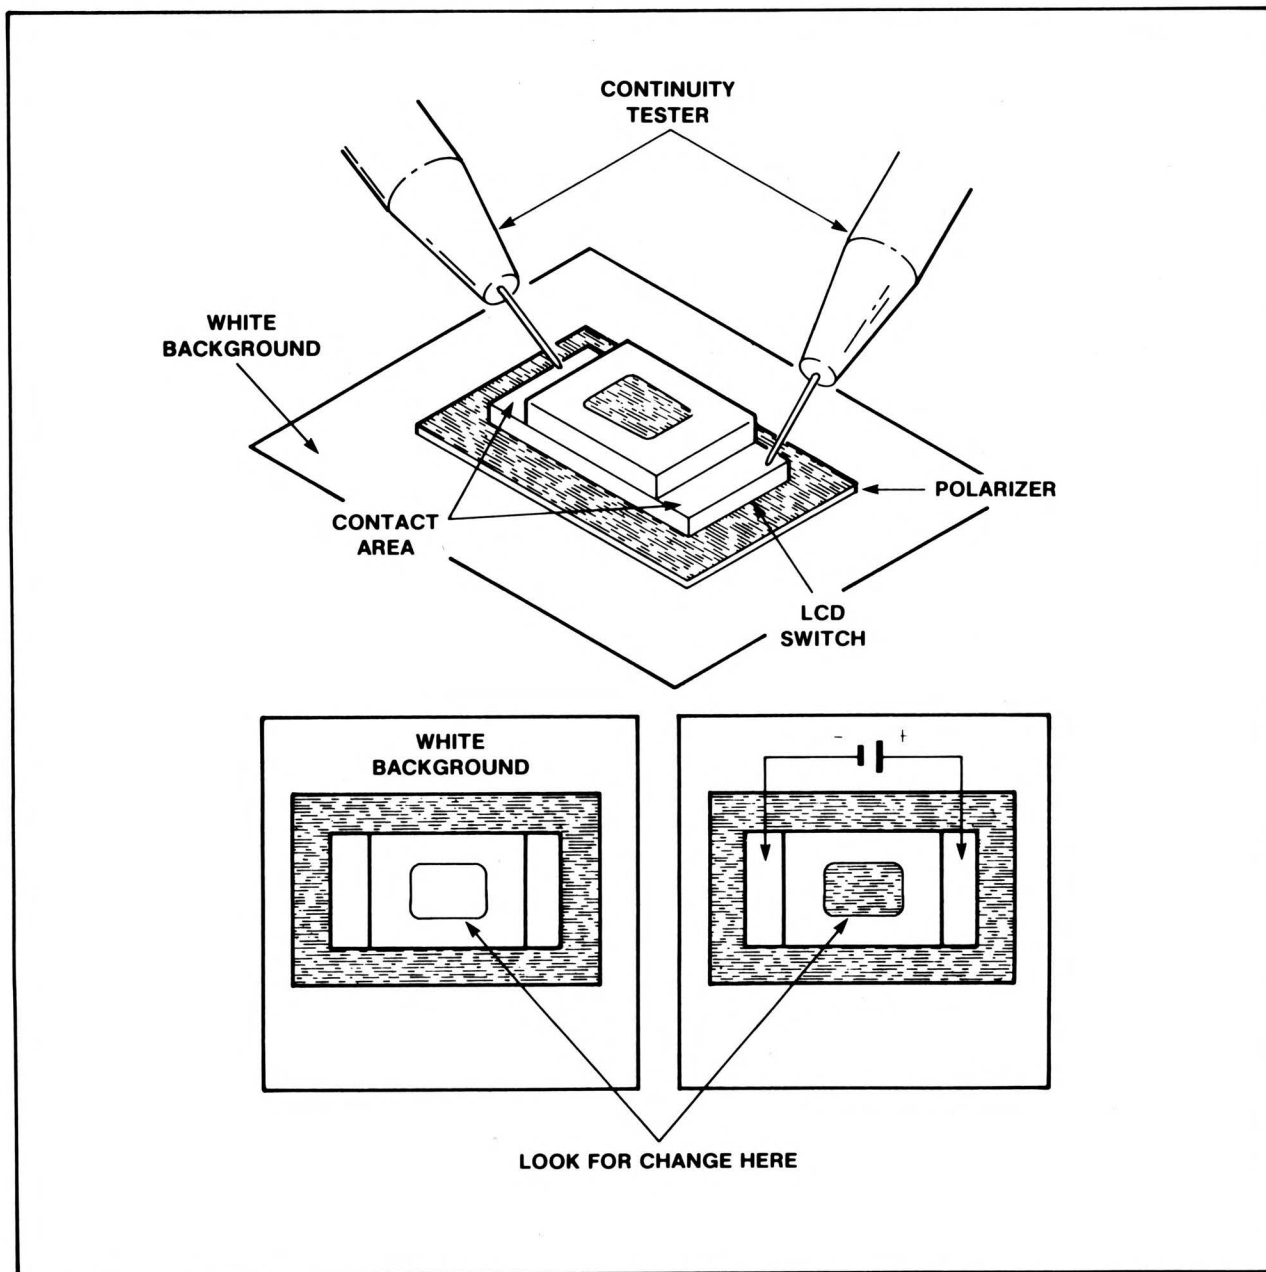

Figure 8-14. Liquid Crystal Test Setup.
- b. Place the liquid crystal in the test setup shown in Figure 8-14 below:
- c. Gently place the probes of the continuity tester on the end shoulders of the liquid crystal as shown in *Figure 8-14* and observe the window area, it should go from light to dark while probing the device. A faint change of color or no change indicates a faulty liquid crystal. The replacement HP part number for the liquid crystal is 1990-0768.